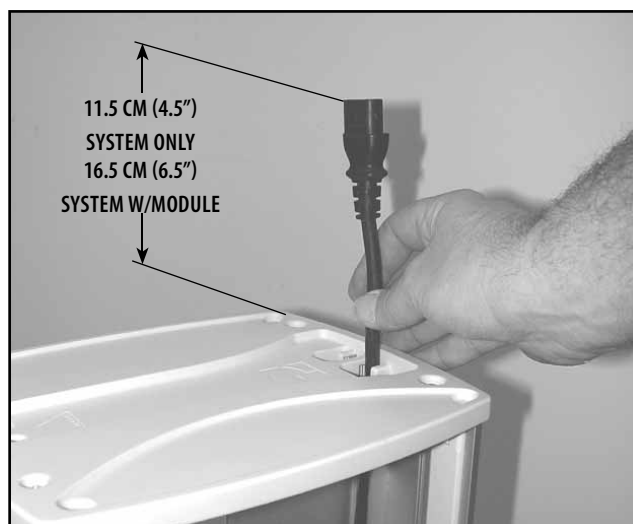

FIGURE 6.53
2. Allow approximately 11.5 cm (4.5") of the power cord extending through the top of the cart for connecting to system. If the system is equipped with an optional NiMH Battery, Laser, or Channel 3/4 Electrotherapy Module, it will be necessary to allow 16.5 cm (6.5") of the Power Cord extending through the top of the Therapy System Cart. See Figure 6.53.